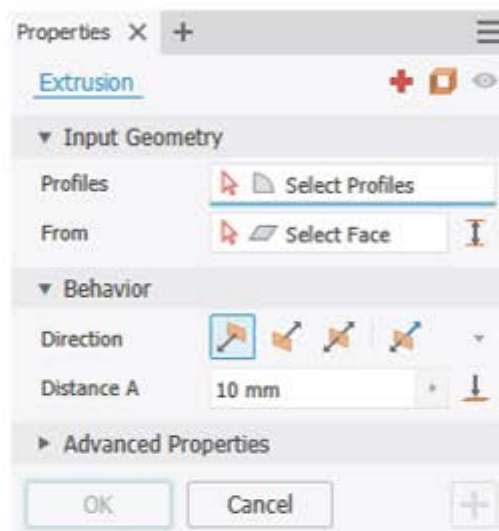

Figure 11–19
6. What does the **red cross** button indicate if it displays in the Properties panel, as shown in Figure 11–19, while extruding a sketch?